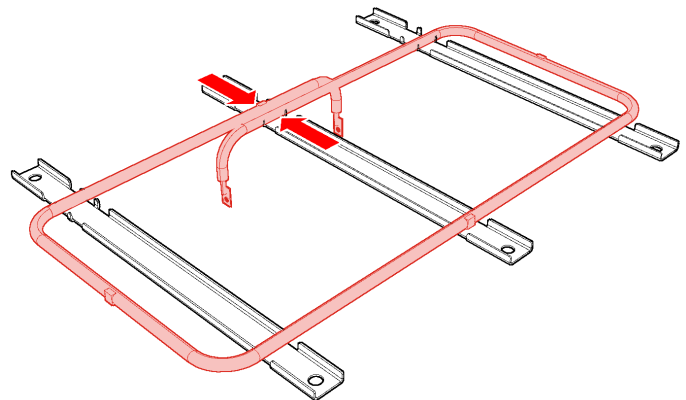

Fig. 15
5. Pinch terminal ends of heating element together and push up to release from brackets (Fig. 15).